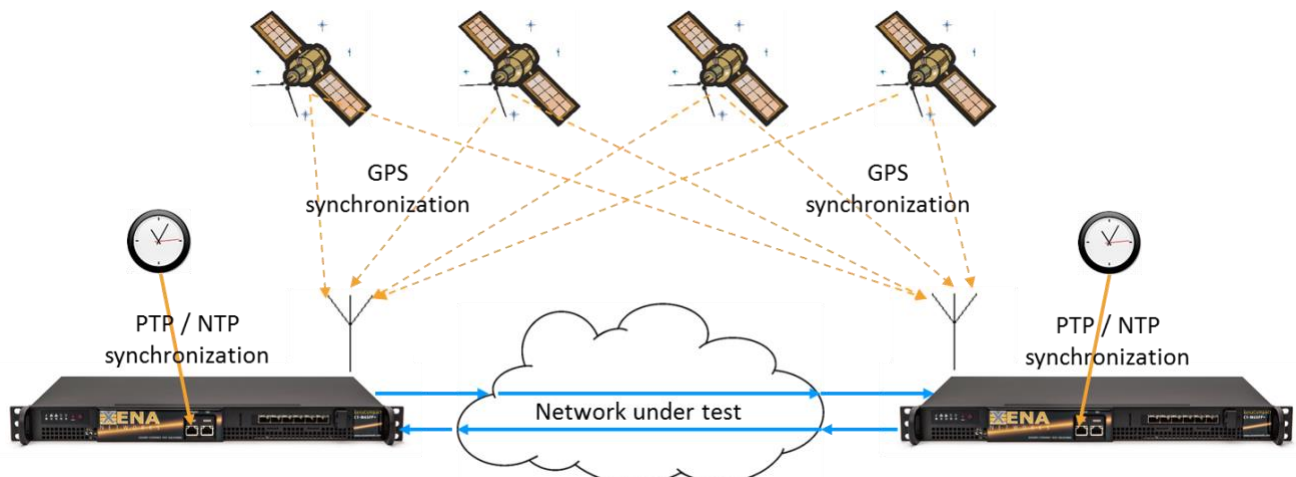

Figure 2: WAN scenario: Test chassis synchronize time using GPS signals and/or NTP/PTP servers
- Each tester may obtain its own time from an external PTP, NTP or GPS source (figure 2)